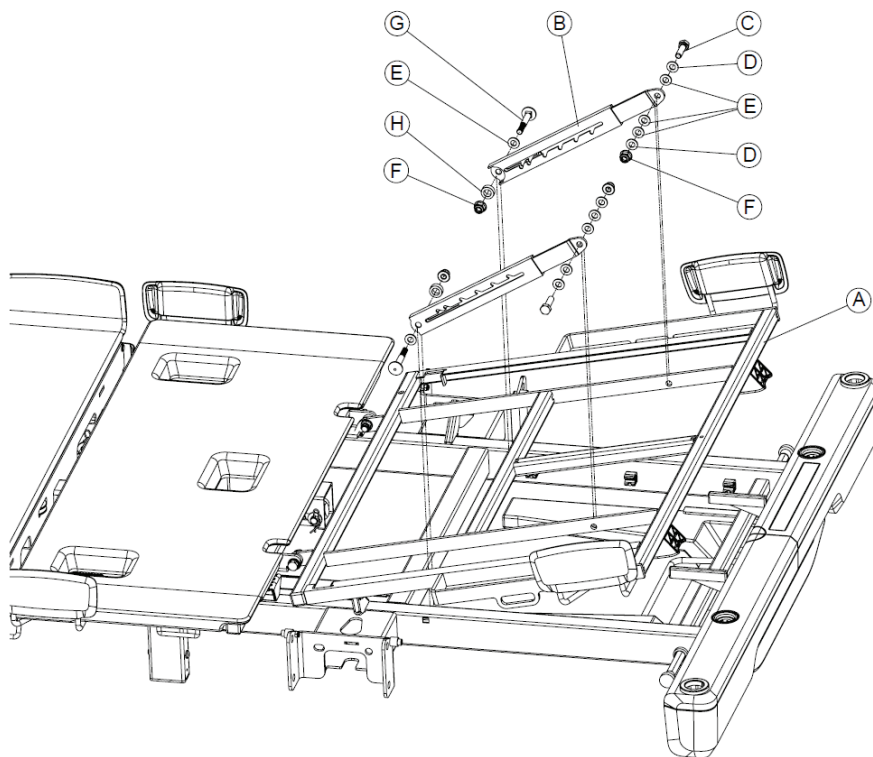

Figure 21 – Lower leg section locking mechanism
4. Raise and lock the lower leg section (A) (Figure 21).
5. Using a 13 mm combination wrench, 3/8" drive ratchet, and a 13 mm socket, remove the upper bolt (C), nut (F), and washers (D, E) that secure the lower leg section locking mechanism (B) to the foot section weldment.
6. Using a 13 mm combination wrench, remove the bolt (G), nut (F), washer (E), and spacer (H) that secure the bottom of the lower leg section locking mechanism to the litter frame. Discard the bolt, nut, washer, and spacer.
7. Remove the lower leg section locking mechanism (B). Discard the lower leg section locking mechanism.